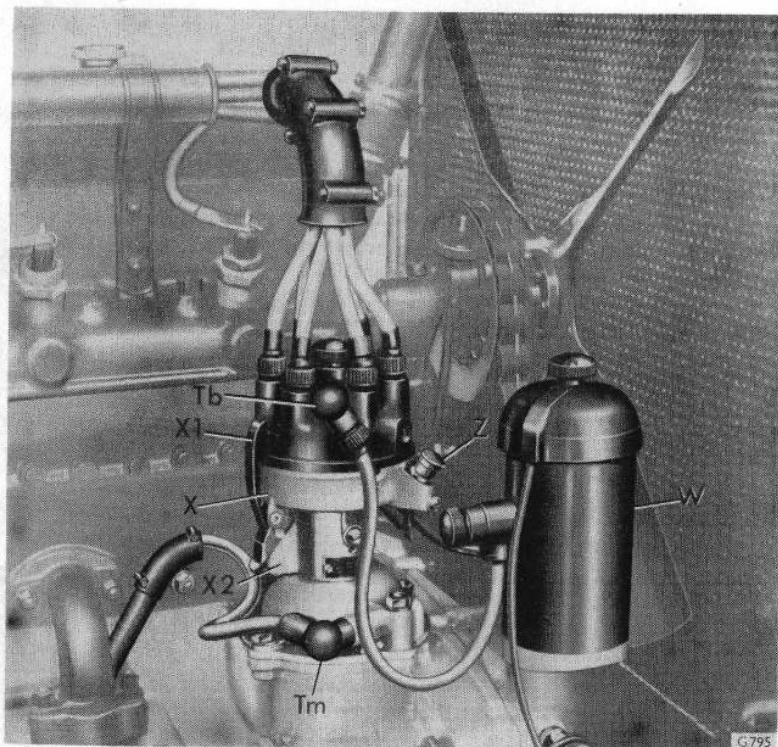

Fig. 26.—IGNITION COIL AND DISTRIBUTOR.
The battery ignition is in a very accessible position (see Fig. 26) and consists of an ignition coil **W**, and combined low-tension contact breaker **X** and high-tension distributor **X1**.
- (1) Remove the battery ignition fuse marked No. 3 from the distribution box, inserting same in the dummy fuse holder in the cover.
- (2) Pull out the high-tension terminal (Tb, Fig. 26) of the battery ignition from the distributor and replace with the high-tension magneto lead (Tm), which is carried in a special holder on the ignition tower when not in use. Insert the battery high-tension lead in the holder.